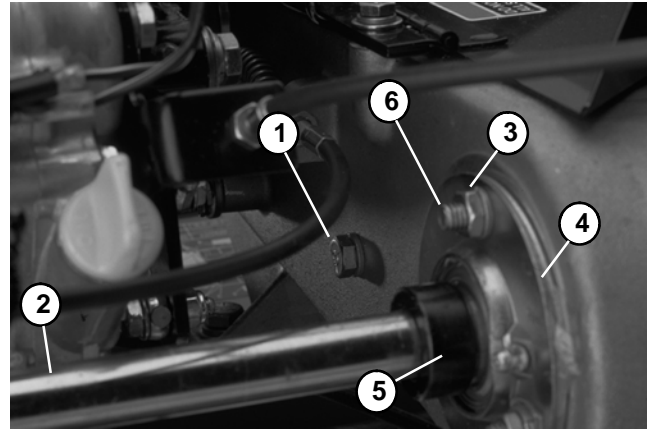
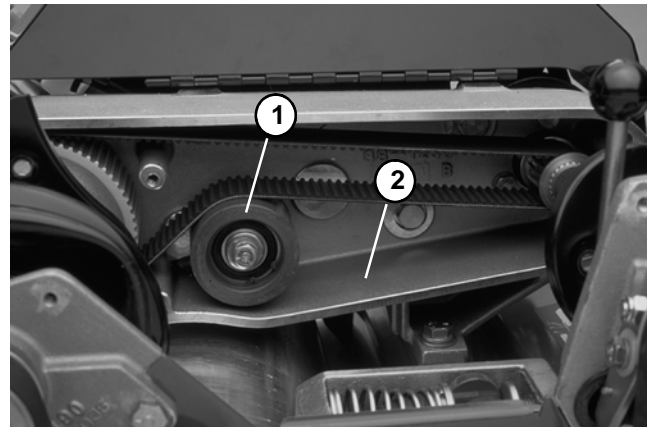

Figure 40
Figure 41
9. Remove jam nuts, lock washers, and cable clip from the studs of screw plate. Slide locking collar and flangettes with the bearing off the differential axle. This step allows the differential assembly to be positioned for clearing the frame (Fig. 40).
4. Slide flangettes and bearing onto the long differential axle. Secure jam nuts, lock washers, and cable clip to the studs of screw plate (Fig. 40).
10. Reinstall idler pulley to the countershaft housing (Fig. 40). Secure idler pulley with cap screw and lock washer. Tighten cap screw until washer just starts to compress. Spacer must be free to rotate (Fig. 41).